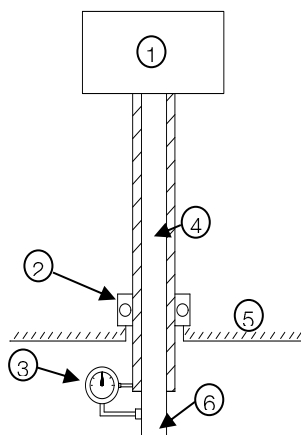

Figure 4.14: Alignment of motors with hollow shaft
1. Fix the dial gauge by its magnetic base to the pump shaft and align it with the base surface (motor shaft), setting the dial gauge to zero (Figure 4.14);
Figure 4.14 legend: